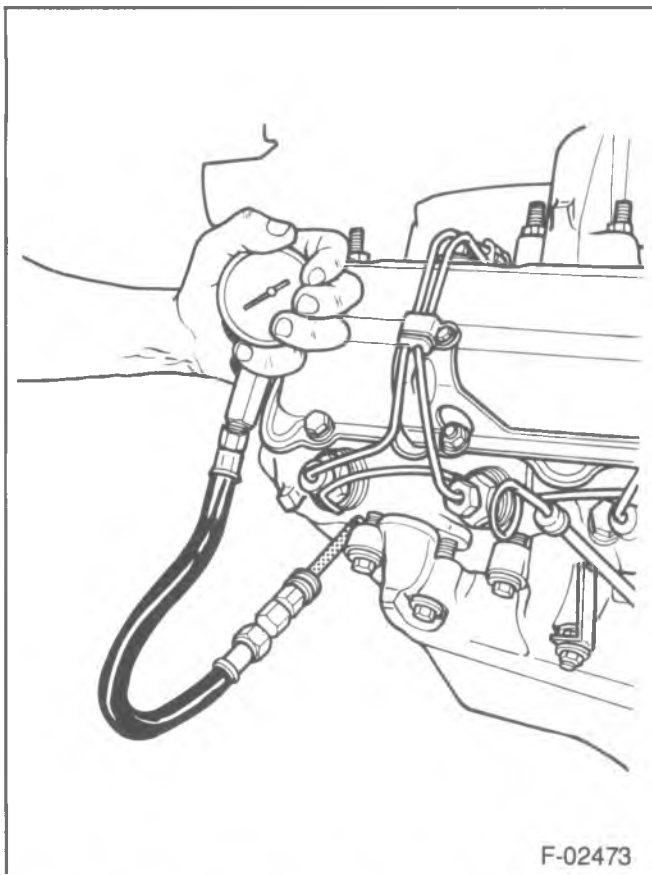

Figure 1—Checking Diesel Engine Compression
4. Screw J-26999-10 into the glow plug hole of the cylinder that is being checked. Connect to a suitable compression gage (figure 1).